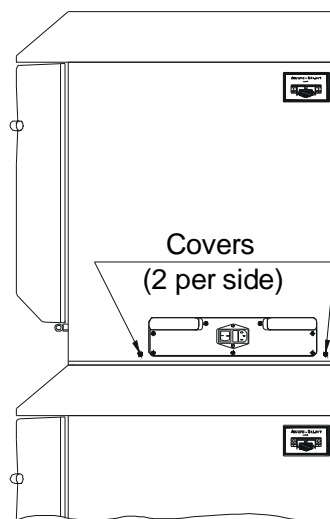

fig. 4
- Remove the covers from the left and right sides of the top unit (see figure 4).